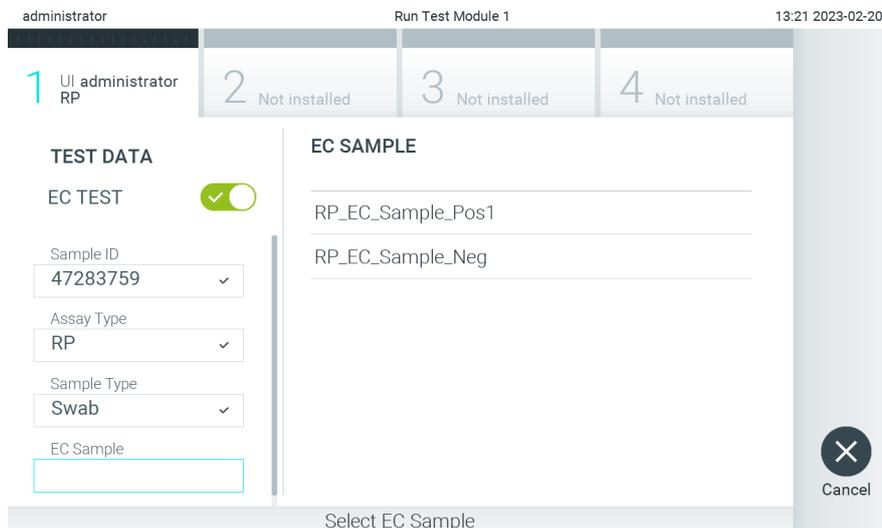

Figure 95. Selecting EC Sample.
6. Select the appropriate EC sample from the list. Only EC samples for the selected assay type are shown (Figure 95).